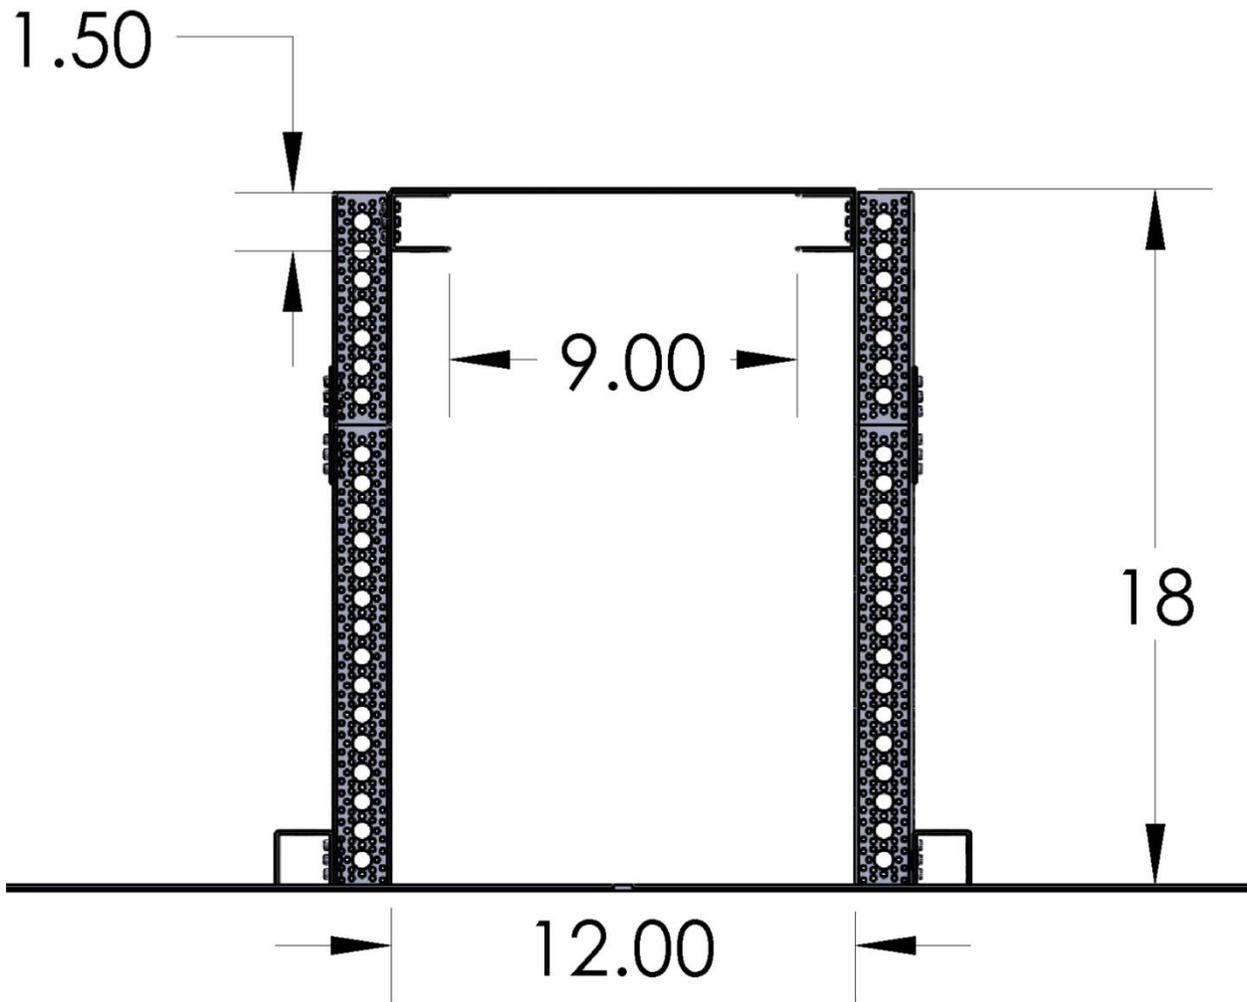
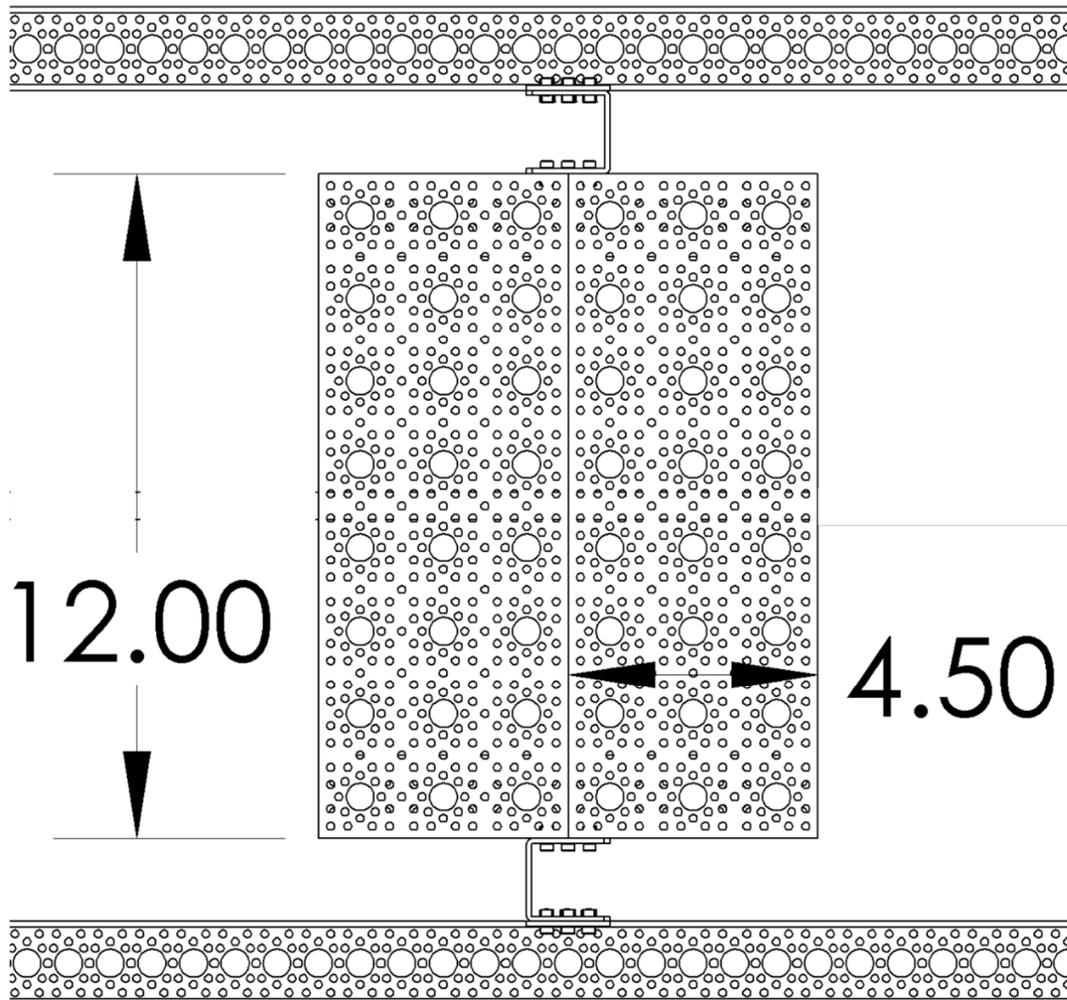

Figure 5 : Drawing showing the Front view of platform and panel height
Figure 6 : Details of the Panel
- The challenge field is built using Servocity WRL field kit (<https://www.servocity.com/world-robotics-league-game-field-kit>). In case you do not have quick access to the Servocity parts, you may use other material such as extrusions, wooden posts, PVC pipe to create an equivalent structure per the dimensions provided in Figure 5 and Figure 6. The panels as described in Figure 5 are 4.5in X12 in.